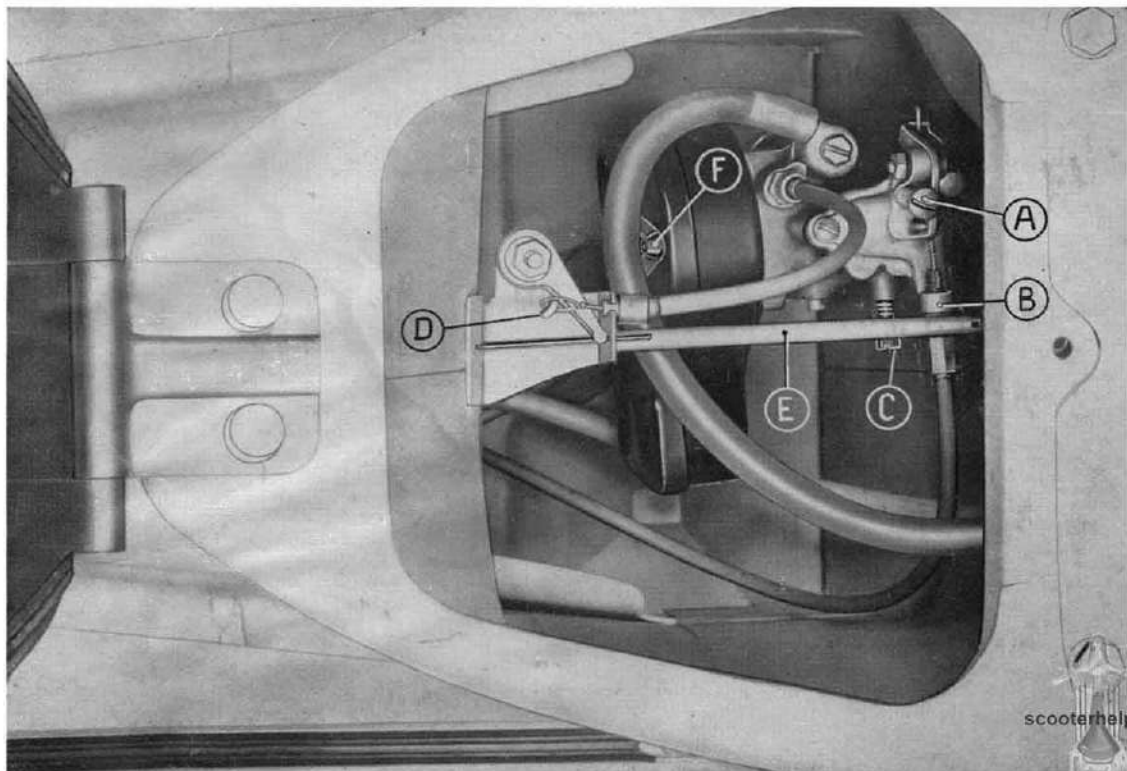

Fig. 12 - To approach the carburator and air cleaner assy. (For details indicated on the figure, see pag. 16 - 18).
- On the carburettor body a set screw (« B » fig. 12) is provided for adjusting the throttle cable play; this screw is to be reset **only if necessary** or on dismantling and reassembly operations.
- On the air cleaner case, there is a spring loaded screw for adjusting the volume of mixture from idling jet (fig. 9, n. 3 and fig. 12, « C »).
DISMANTLING AIR FILTER	— For dismantling the air filter, pivot the seat forwards (fig. 5), remove the tool box and the choke control cable (the cable end ring can be seen on Fig. 12, « D » then dismount the fuel tap rod (see Fig. 12 « E »); next unscrew the two tee head bolts (Fig. 12 « F ») securing the air filter case and extract it.